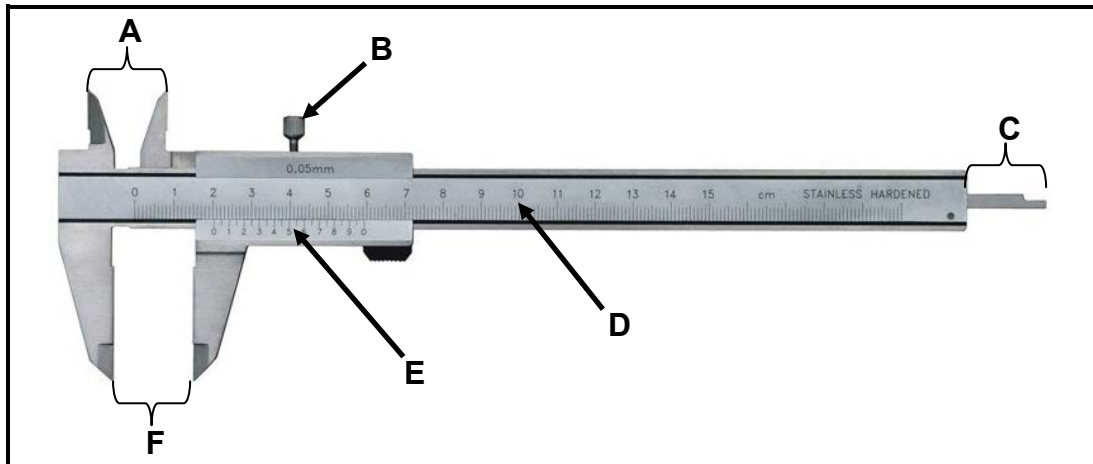

FIGURE 9.1
9.1 A vernier calliper is shown in FIGURE 9.1 below. Answer the questions that follow.